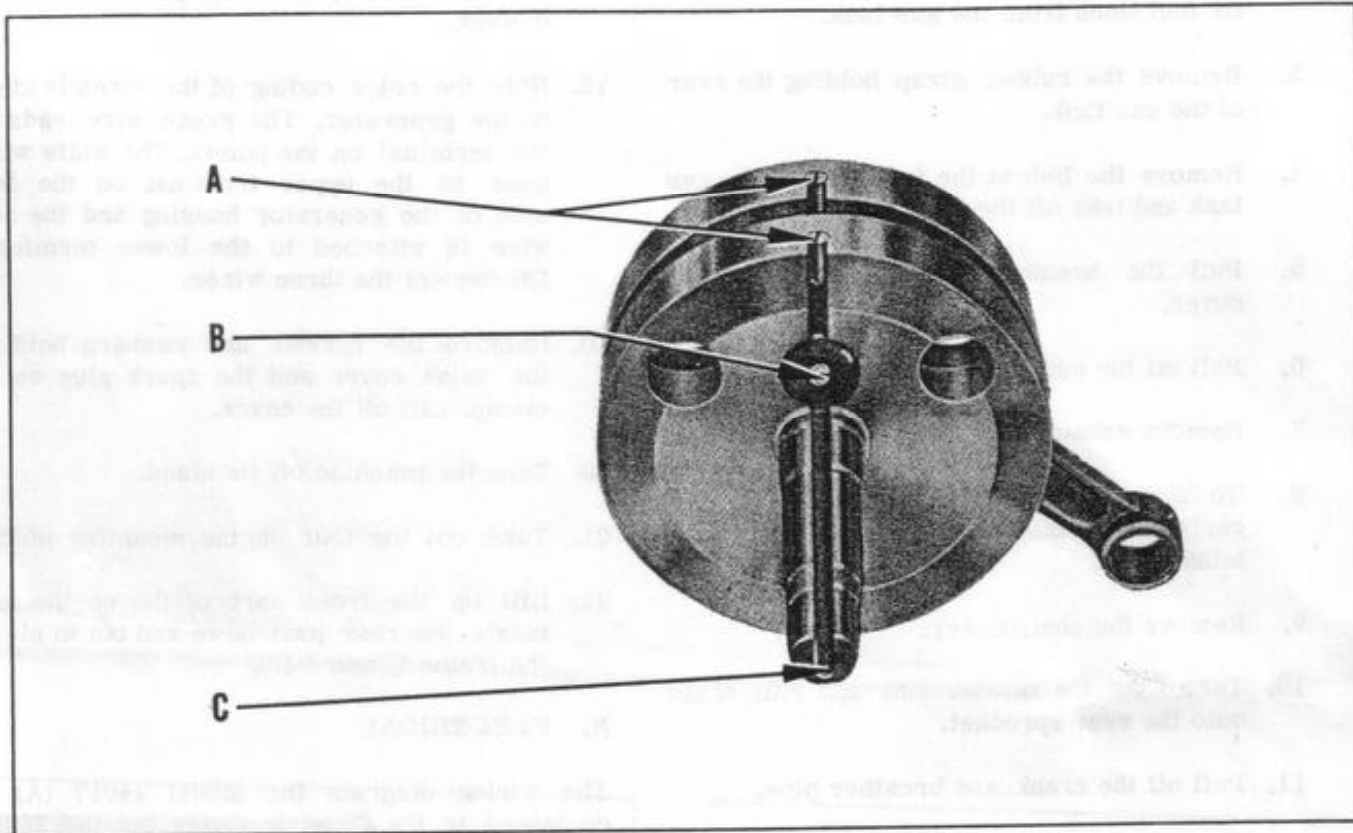

Figure 35.
- a. Remove plugs, reference A, Figure 35.